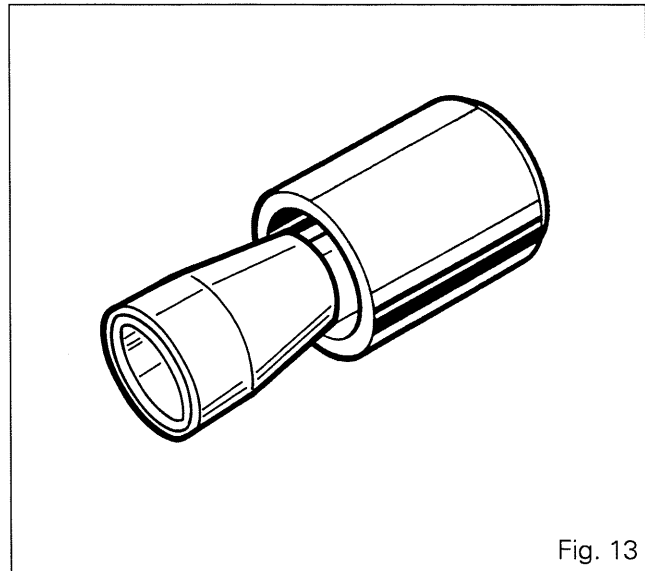

Fig. 13
8. Replace the O'ring (34) and check that the dowel (9) is present.
9. Fit sun gear (25) against the washer (23).
10. Protect the sun gear splines using the oil seal protector 3376885 M1 and mount the spacer. Tighten the bolts (32) to a torque of 100 - 130 Nm.
11. Remove the shaft protection. Engage the hub (38), fit the snap ring (39) with the tool locally manufactured (Fig. 13).
12. Refit the brake disc (27).